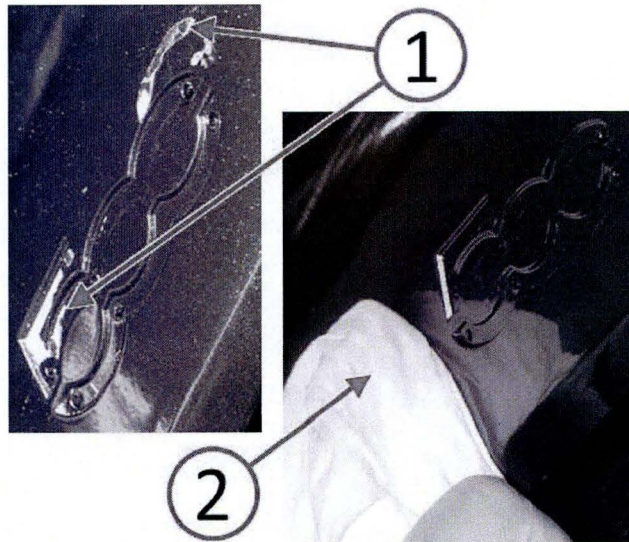

Fig. 4 Remove Remaining Adhesive
- Using a clean cloth (2) dampened with isopropyl alcohol or general purpose adhesive cleaner safe for painted surfaces, clean any adhesive residue (1) from the instrument panel bezel (Fig. 4).